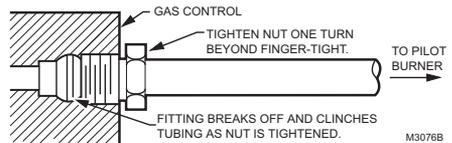

Fig. 6. Always use new compression fitting.
4. Push tubing into the pilot gas tapping on the outlet end of the control until it bottoms. While holding tubing all the way in, slide compression fitting into place, engage threads and turn until finger tight. Then tighten one more turn with wrench. Do not overtighten. Refer to Fig. 6.